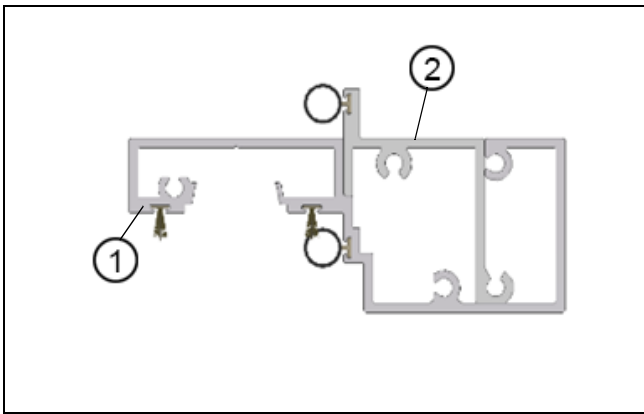

Figure 10
5. If the frame has a transom, place the adapter as shown in Figure 10.